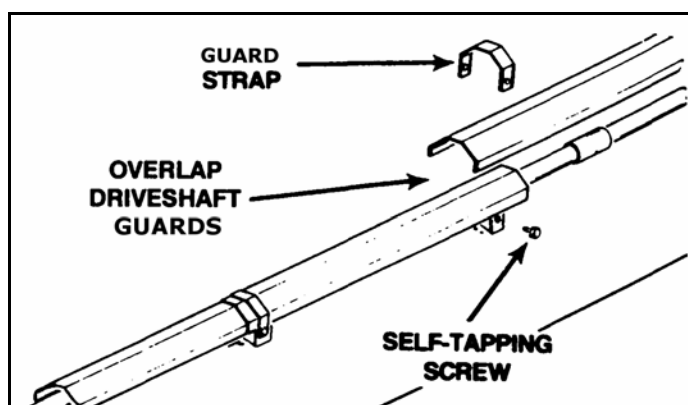

Figure 3.10
5. Position the driveshaft shields according to Table 3.5, overlapping at bearing support brackets and at strap-on bearings where applicable. Fasten with shield straps and self-tapping screws. Do not tighten until all driveshaft shields are positioned (Figure 3.10).
5. Position the driveshaft shields according to Table 3.5, overlapping at bearing support brackets and at strap-on bearings where applicable. Fasten with shield straps and self-tapping screws. Do not tighten until all driveshaft guards are positioned (Figure 3.10).